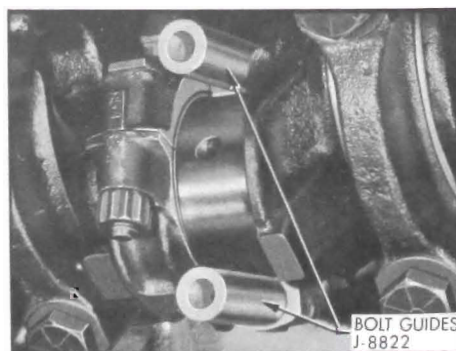

Figure 2-52—Connecting Rod Bolt Guides Installed
4. Remove cap and bearing shell from number 1 connecting rod. Install connecting rod bolt guides on the bolts to hold the upper half of the bearing shell in place. See Figure 2-52.